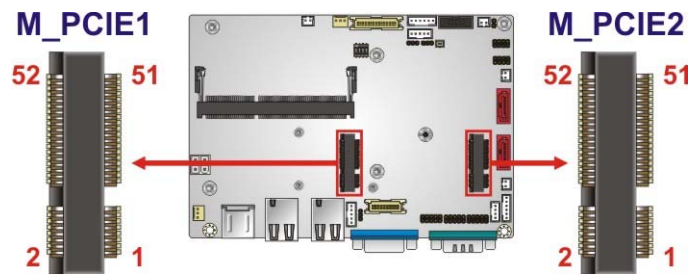

Figure 3-12: PCIe Mini Card Slot Locations
- CN Location:** See **Figure 3-12**